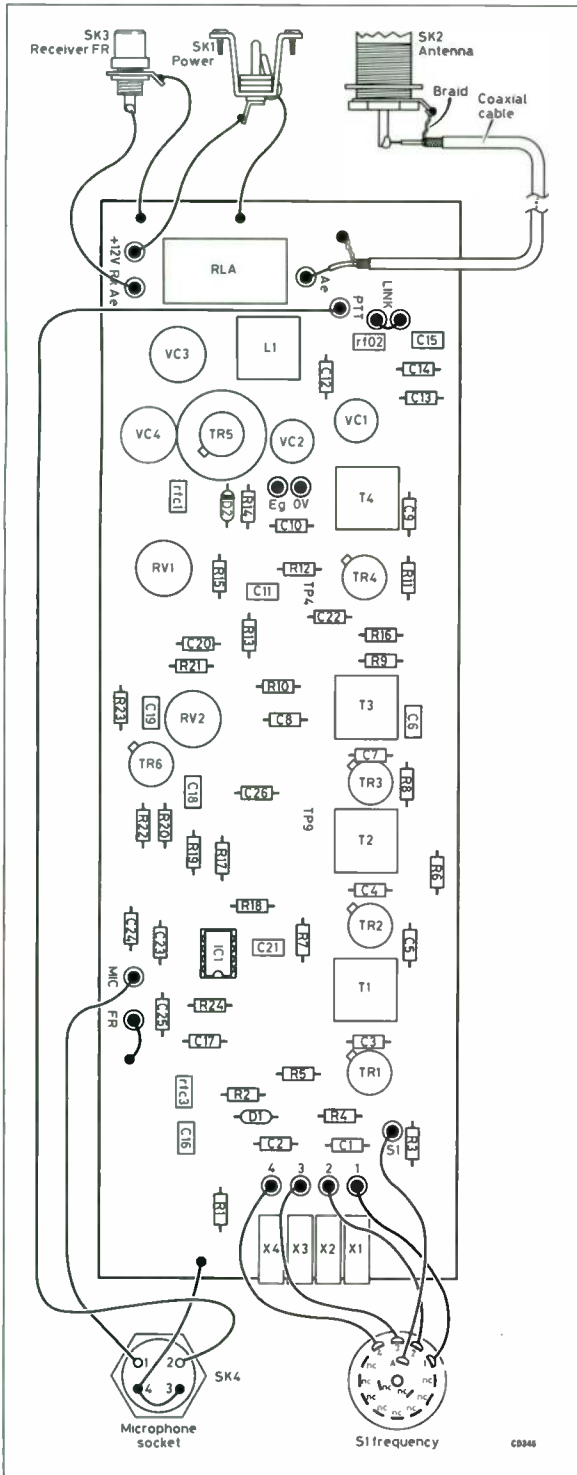

Fig 8.10. Component layout and connection of flying leads
- pins indicated on the board or on the layout in Fig 8.10 in the positions marked with a circle. If you are using a board which does not have the components marked on the component side you should keep referring to the layout shown in Fig 8.10. The pins should be inserted from the track side of the PCB and soldered.
7. Fit TR1 with not more than 4mm clearance from the board. Check the orientation from Fig 8.10.